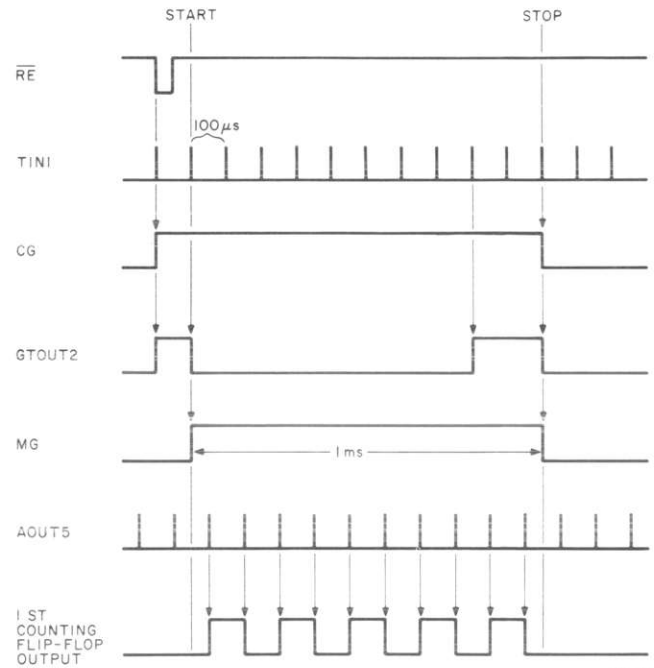

Figure 4-9. Frequency-mode timing diagram.
**Start.** At the end of the display time, or by manually depressing the RESET button, a reset pulse,  $\overline{RE}$ , (Figure 4-9) is produced that sets the count gate flip-flop to Q, opens the count gate to allow GTOUT1 pulses to be fed into the time-base dividers, sets the counting decades to 0, sets the main gate flip-flop to  $\overline{Q}$ , and sets the time-base dividers to 9. The first GTOUT1 pulse, which comes through the count gate into the time-base dividers after the reset pulse has terminated, sets the time-base dividers to 0, flipping the main-gate flip-flop to the Q state, thus starting the